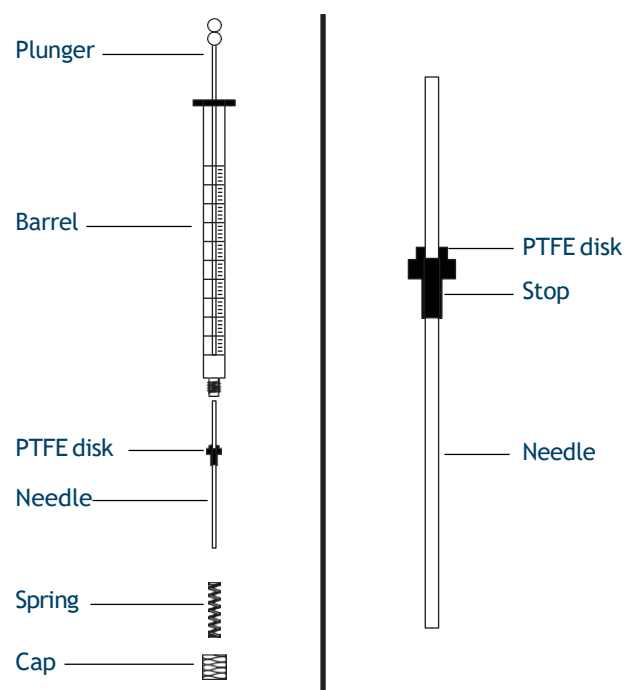

Figure 80. Syringe parts
To insert a needle into a syringe barrel (Figure 80):
- 2 Make sure the needle has a PTFE disk (Figure 80). If the syringe barrel does not have the PTFE disk, use the instructions in the syringe box to wrap the needle yourself.